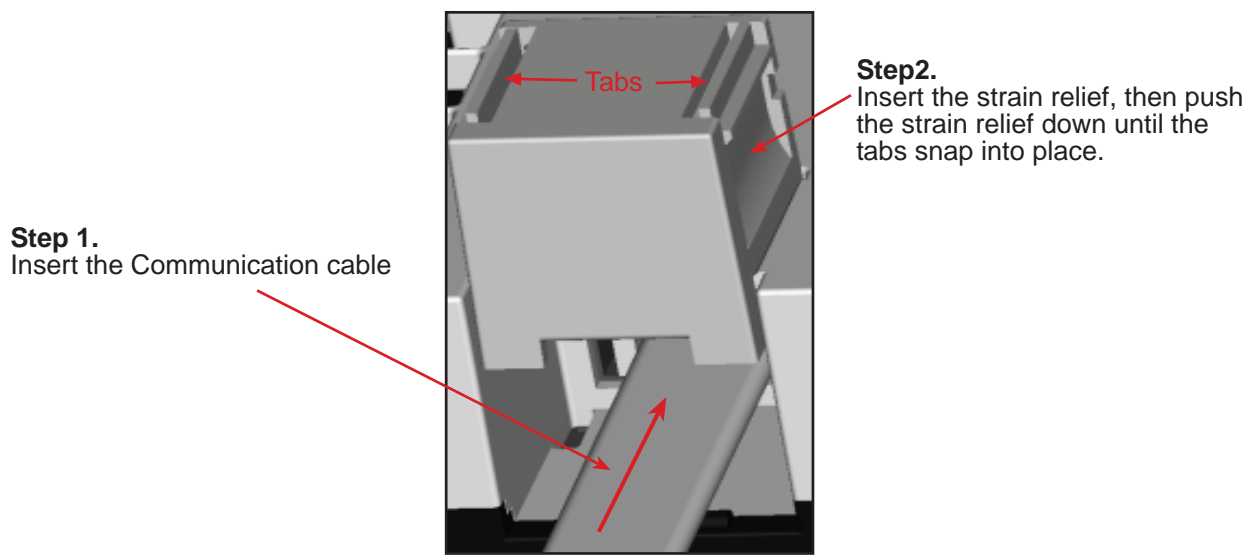

Figure 7.
- 14. Locate the communication cable and insert one end into the S801/S811 Interface connector and secure it using the strain relief. See Figure 7.